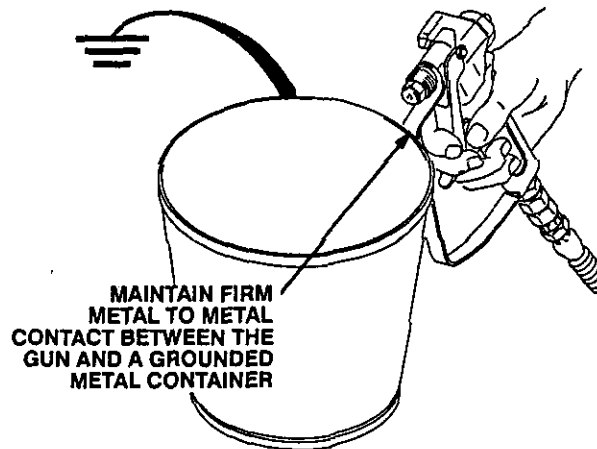

Fig 7
7. To prime the hose, lower the pressure to reduce splashing. Hold a metal part of the gun firmly against and aimed into the side of a grounded metal pail. See Fig 7. Hold the trigger open and slowly increase the pressure until the pump starts. Keep the gun triggered until all air is forced out of the system and the fluid flows freely from the gun. Release the trigger and engage the gun safety latch.